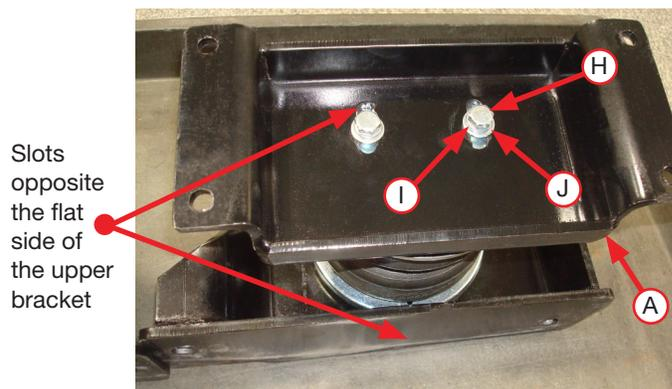

Fig. 5
3. Flip the assembly upside down and set a roll plate on both air springs. Set the lower brackets (A) onto the air springs, making sure the slots in the lower bracket are on the opposite side of the fitting at the top of the air spring (must be on tire side). Attach the lower brackets with the 3/8" hex cap screws (H), 3/8" lock washers (I) and 3/8" flat washers (J) (Fig. 5). Leave loose at this time.